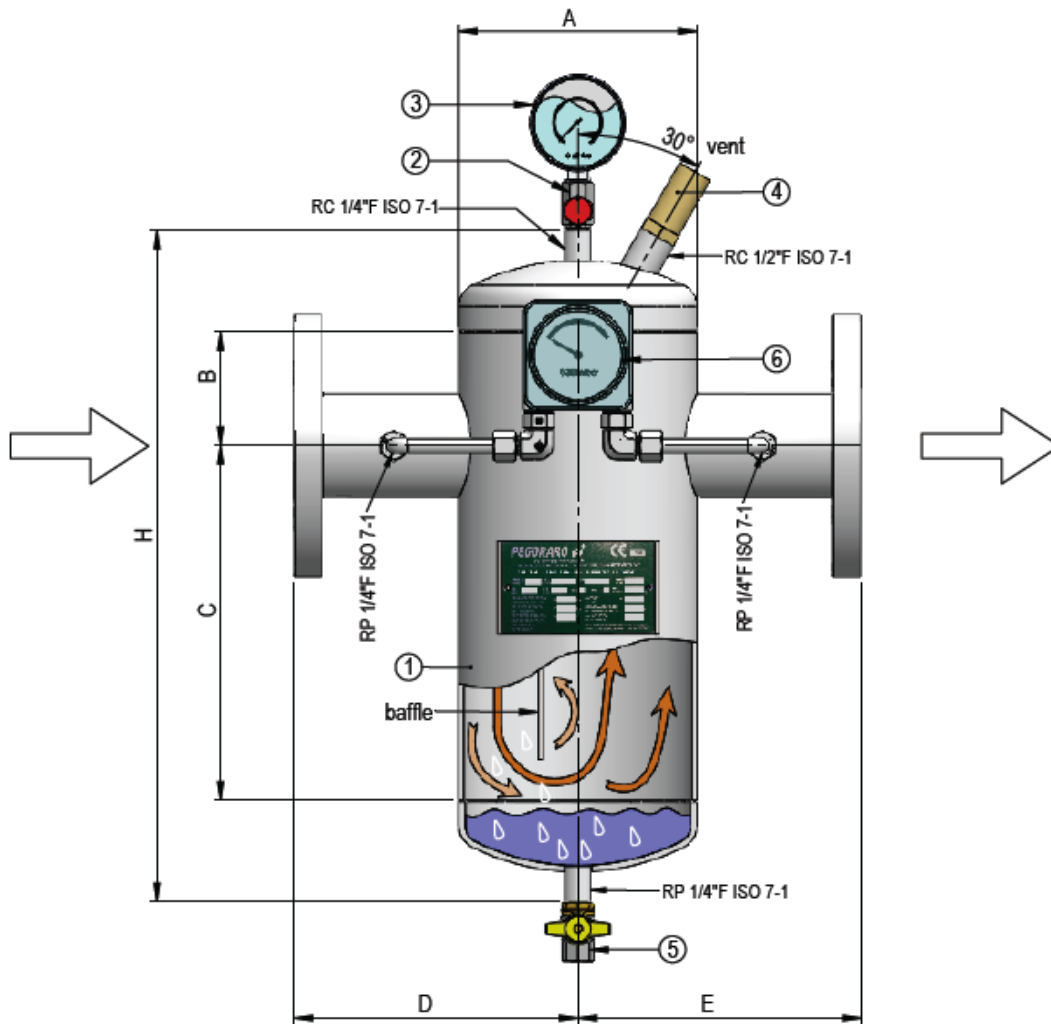

Fig. 2.1 – BRC condensate separator
2.1. GENERAL DESCRIPTION (FIG.2.1)
The plate (Fig. 4.1), marked with the plant data is applied and fixed on the casing of the condensate separator (Fig. 2.1). The plate must be always intact and well visible. It is strictly prohibited to remove, cover and/or tamper with, even partially, the data it contains.
Dimensions Table (Fig. 2.1)